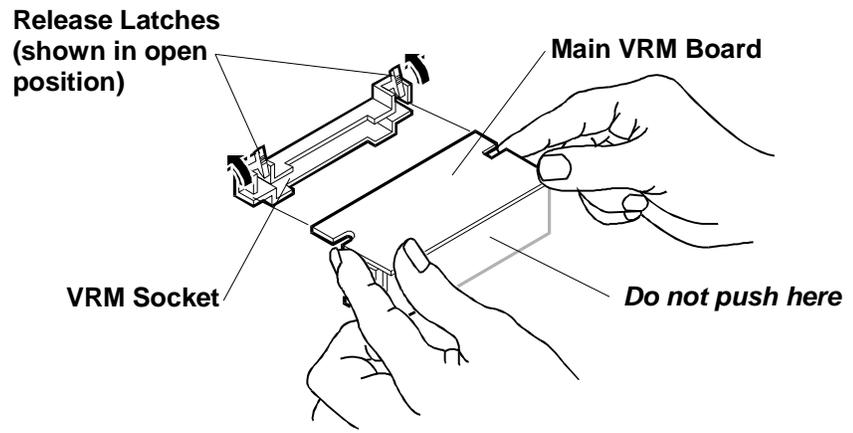

Figure 1-13. Installing a New VRM
1. Orient the new VRM as shown in Figure 1-13.
CAUTION	When installing the new VRM, push only on the edge of the main VRM board (see Figure 1-13). Do not push on the large flat surface (if your VRM model has one) or any components on the board. Pushing on any part of the VRM except the edge of the main board may result in damage to the VRM. Damage caused by improper installation is not covered by any HP warranty.
3. Verify that the VRM is installed completely in the socket. When the VRM is installed completely, the release latches (see Figure 1-13) at the ends of the socket will be closed.